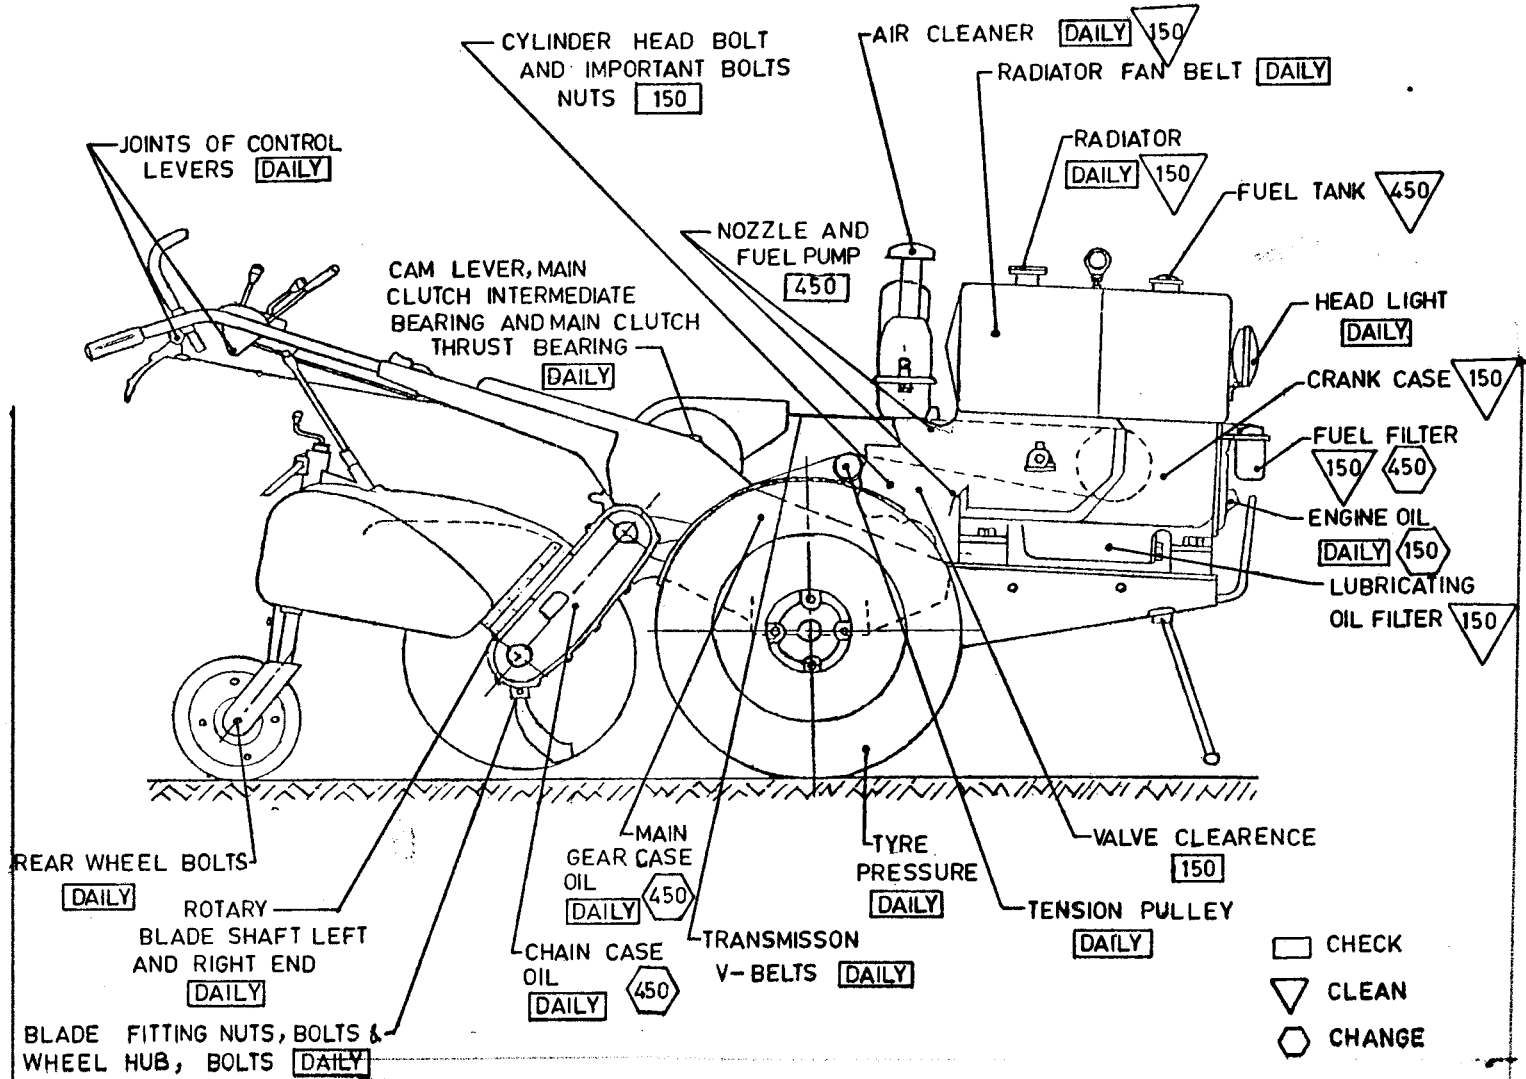

FIG. 1 PERIODICAL MAINTENANCE SCHEDULE
**4.3.2** The periodic maintenance should be carried out as indicated in the service manual. Some of the details are given in Annex D and Fig. 1.